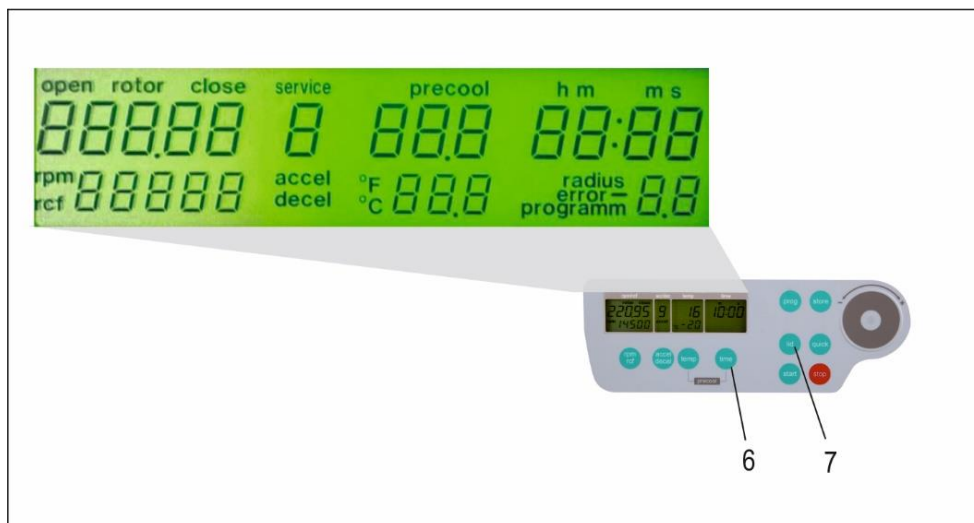

Figure 6
If the centrifuge is still turned off, press the keys, "time" (6) and "lid" (7) simultaneously, turning on the main switch of the centrifuge. Now release both keys. As a result, a display test is administered for approx. 5 seconds. All possible indications will appear at the same time (see Figure 6).